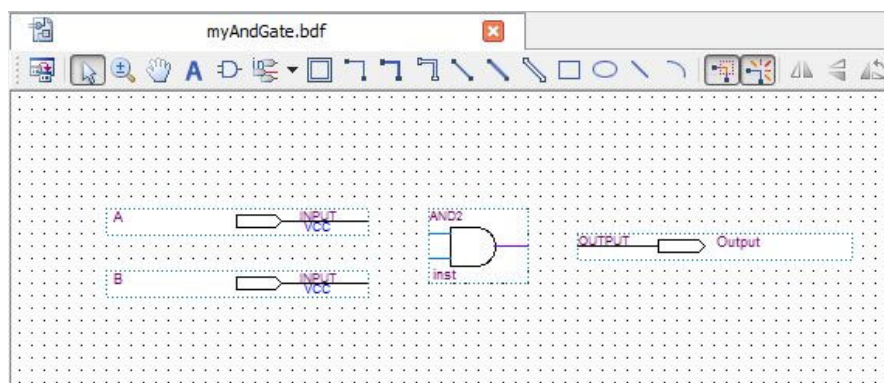

Figure 6: Symbol placements for the 2-to-1 multiplexer circuit.
- Position the symbols similar to Figure 6